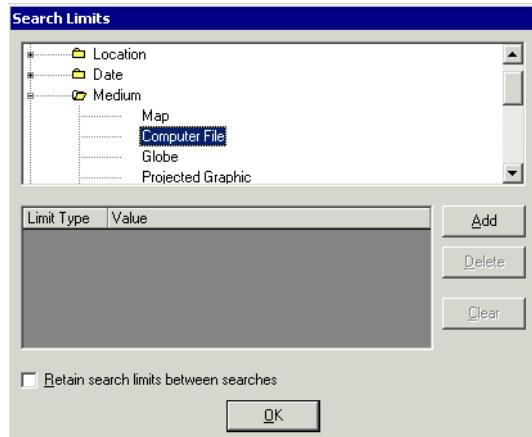

Figure 2-37. Computer file selected as search limit
3. Select any values from the list you want to use as limits for your search. Figure 2-37 shows the Medium limit of Computer File selected.